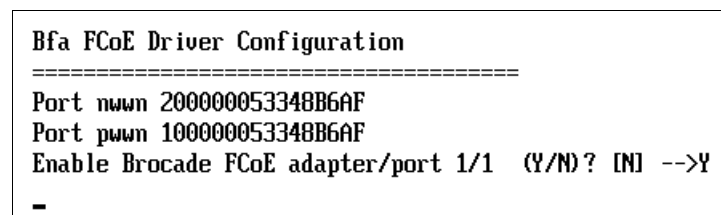

Figure 9-188 WWPN enabling the port for boot
4. From the Bfa FCoE Driver Configuration panel, note the Port WWPNN, which is your WWPN and is useful when doing zoning and LUN mapping. Then type Y to enable the Brocade FCoE port, which enables the BIOS function and allows the adapter to boot (Figure 9-188).